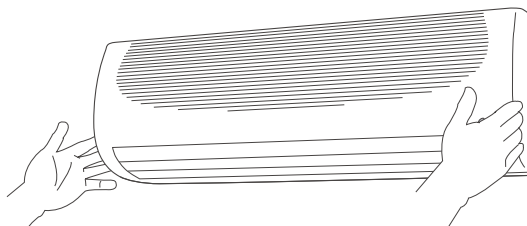

Fig. 6 — Remove Grille Insert
2. Remove the unit's front panel by lifting the lower part and pulling it gently outward and upward. See Fig. 6.